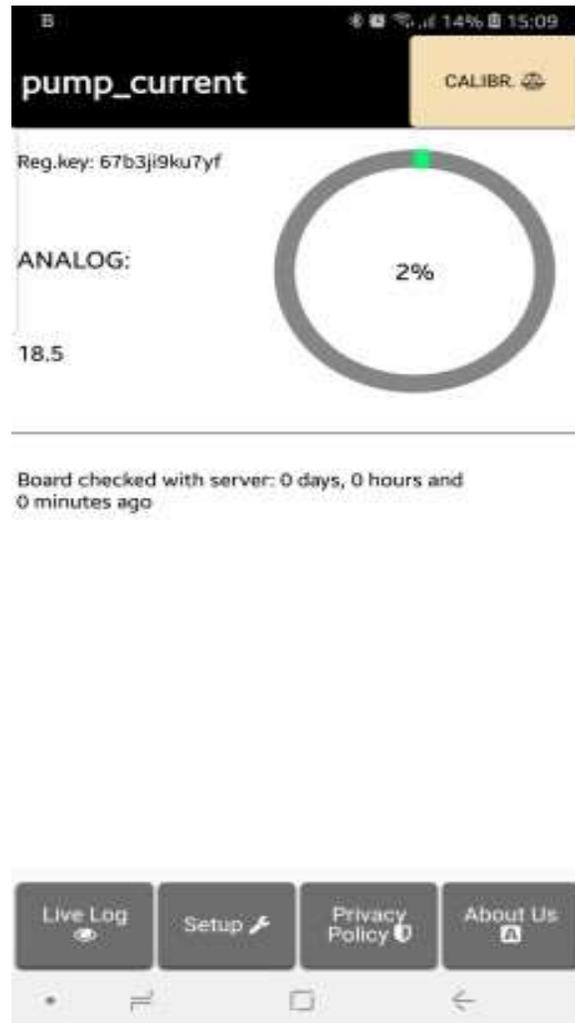

Fig 8.
10. Now pressing on the pump_current line will display the live log screen related to the DobaM board that has been setup (Fig.8). The analog value is displayed on the screen together with the last time the DobaM board checked with the server. This information is important for the user to know if the DobaM and its internet connection are working. If for instance the screen displays an unusually long time, it could be an indication that the DobaM or its internet connection or router are facing issues.